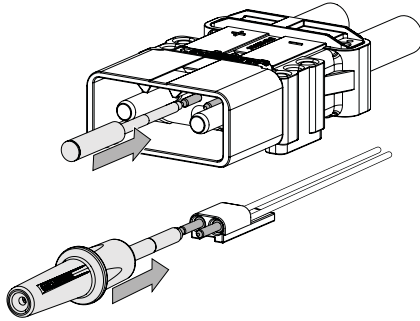

Fig. 55:
2. Press the contacts backwards out of the contact chambers as shown in **Fig. 55**.